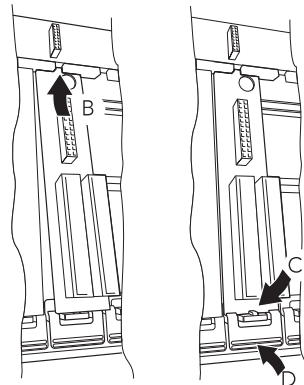

Figure 4 Terminal unit installation/removal
1. Insert the tag at the top of the terminal unit printed circuit board into the relevant slot in Base Unit (action 'B' in Figure 4).